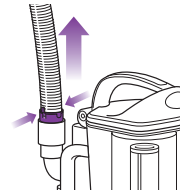

Fig. 32
- Detach the stretch hose from the back of the detachable canister by squeezing the tabs together and pulling up. (Fig. 32) Straighten out the hose and look inside for blockages.